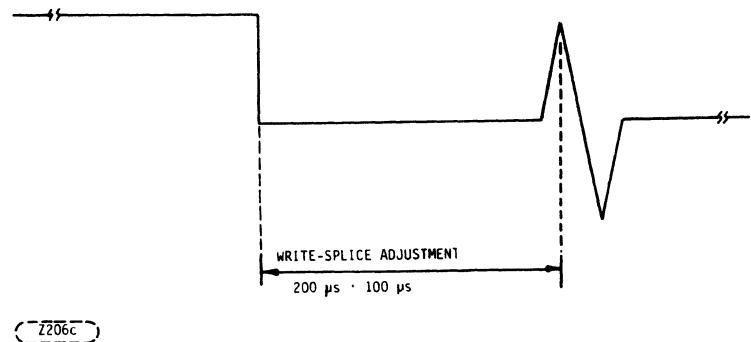
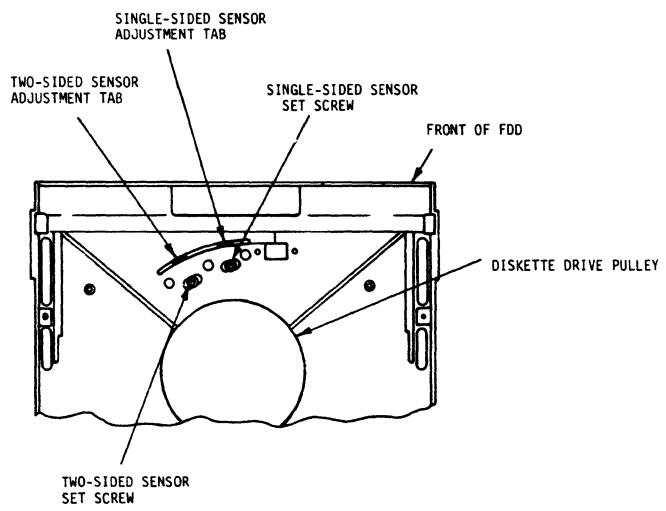

FIGURE 6-4A. WRITE-SPICE-TIMING
FIGURE 6-4B. SINGLE-AND TWO-SIDED SENSOR ADJUSTMENT MEANS
- e. Adjust the time of the write-splice bit until it measures per $200 \mu\text{s} \pm 100 \mu\text{s}$. Refer to Figure 6-4a to adjust the time, loosen the single-sided sensor set screw holding the (single-sided-sensor) phototransistor located on the bottom of the chassis toward the front of the unit, (Figure 6-4b). Using the adjustment tab protruding through the casting, move the phototransistor until the specification is met. Tighten the set screw while observing the scope signal. Verify that the adjustment did not change.